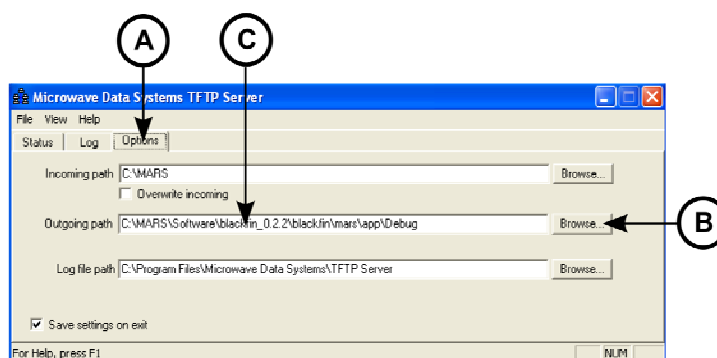

Figure 70. TFTP Server Screen
2. Launch the TFTP server and click the **Options** tab (A in Figure 70 below) and modify the **Outgoing path** (B) using your browser to point to the folder where the reprogramming package (.mpk file) is